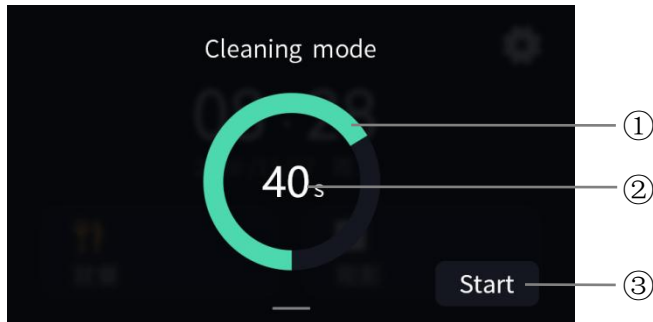
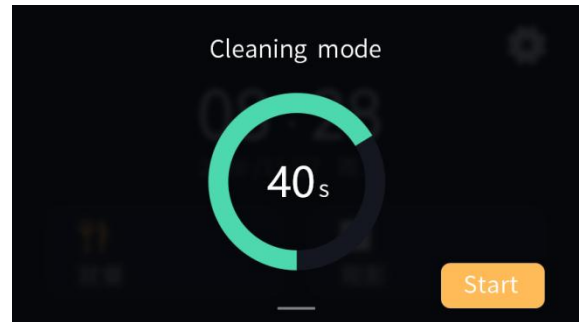

Fig.2.7.1
Fig.2.7.2
On the home page or function page, when pulling down the top of the screen, the setting and operation interface of the cleaning mode will appear as shown in Fig.2.7.1, and you can select a countdown time from 5 to 60s. Pull up from the bottom horizontal line to return.
① This icon is a ring slider to adjust the countdown time of the cleaning mode, range is 5~60s;
② This area displays the time value of countdown.
③ Click this button to start the countdown. The Dark colour is to stop the countdown timing, and the bright colour is to start the countdown, as shown in Fig.2.7.1 and Fig.2.7.2.